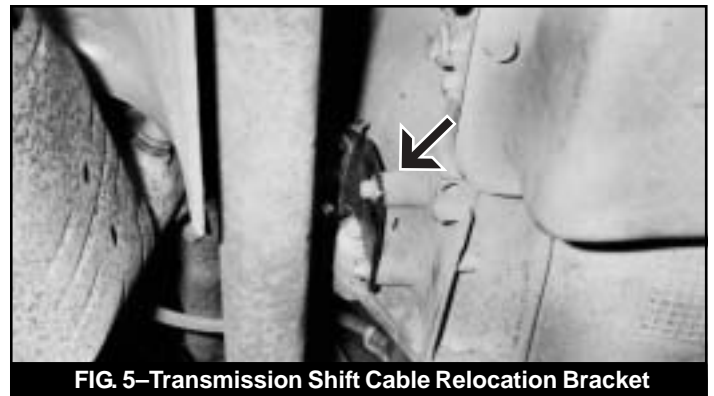

FIG. 5—Transmission Shift Cable Relocation Bracket
54. Using stock bolts, mount the transmission shift cable relocation bracket to the original cable bracket mounting holes (Fig. 5).